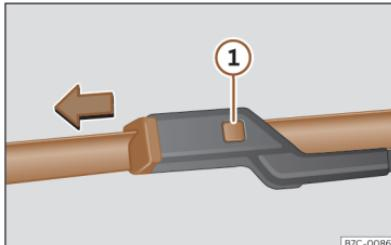

Fig. 179 Changing the windscreen wiper blades
- Press and hold release button >>> Fig. 179 ① and pull gently on the wiper blade in the direction of the arrow.